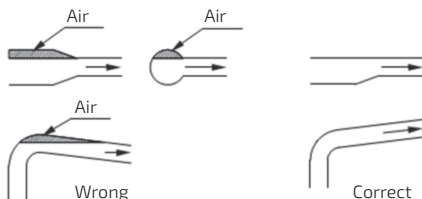

Figure 1: Section Conditions
- The air pockets shall be avoided when installing the inlet pipe line. (See Fig. 1)